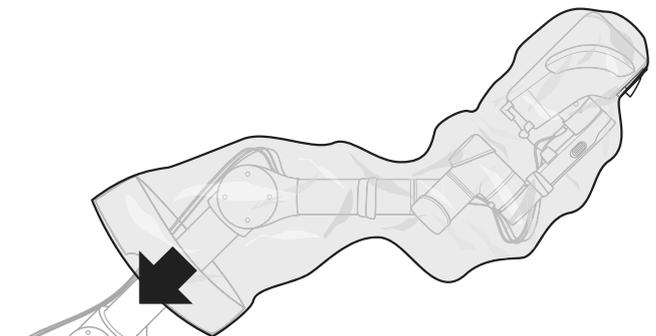

Fig. 19
- ▶ Pull the drape bag completely over the robot arm, see Fig. 19.